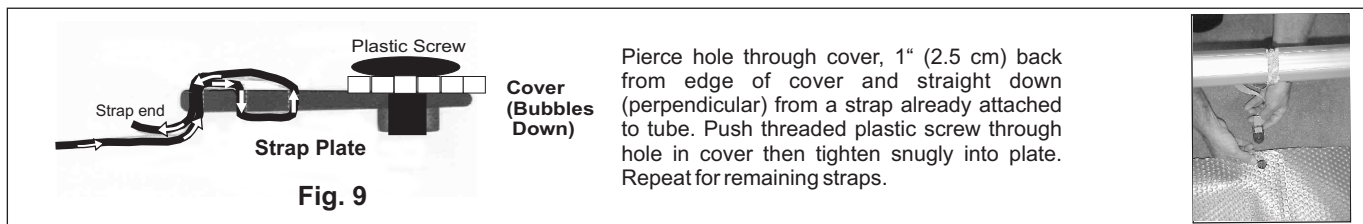
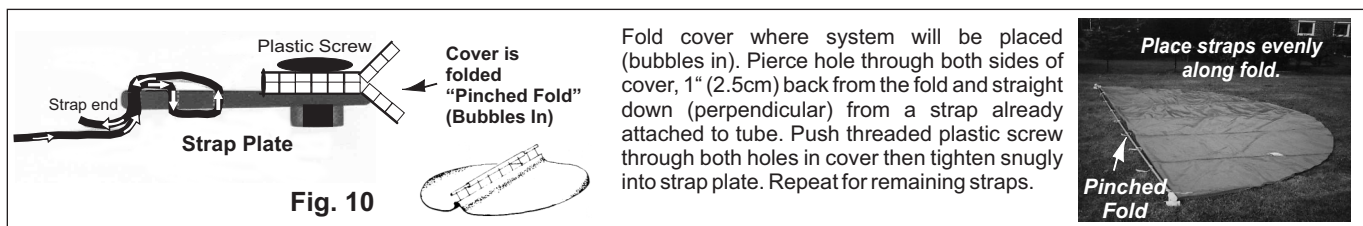

Fig. 9
Fig. 10
Leave an extra 4" (10 cm) on cover length when installing the reel at mid-point or off center to allow for fold (see Fig. 10)
- Choose the appropriate instructions below for your pool setup. If you have determined a mid-pool placement (or off-center), it will be easier if you mark the cover then move it away from the pool and fold it (bubbles in) on a flat surface. Choose *EITHER* Fig. 9 OR Fig. 10.
For Reel Systems Placed at Pool End (RECTANGULAR POOLS) (see Fig. 9)
For Reel Systems Placed at Mid-Pool or off center (ROUND, OVAL OR IRREGULARLY SHAPED POOLS (see Fig. 10)